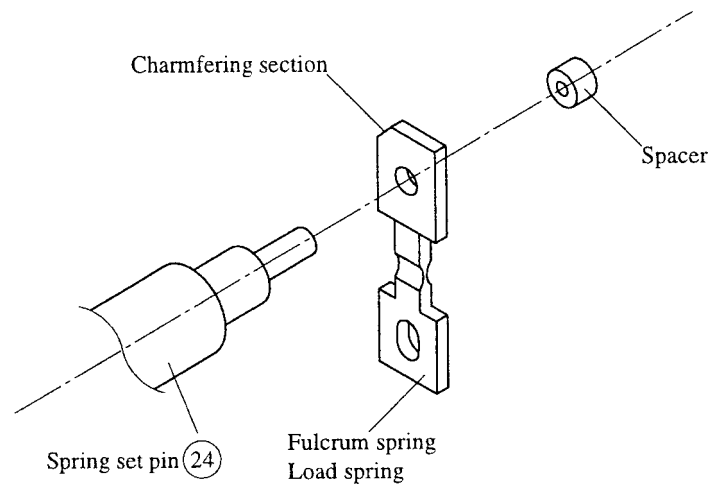

Fig. 14-1
- (b) Insert spring set pin (24*) into the upper hole and lightly tighten the lower bolt ensuring that each spring will not move. (See Fig. 14-1)